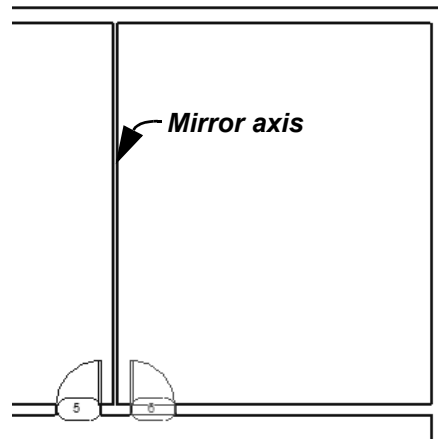

Figure 2–47
13. Select the vertical wall between the rooms as the mirror axis. An alignment line displays along the center of the wall. Place the new door, as shown in Figure 2–47.